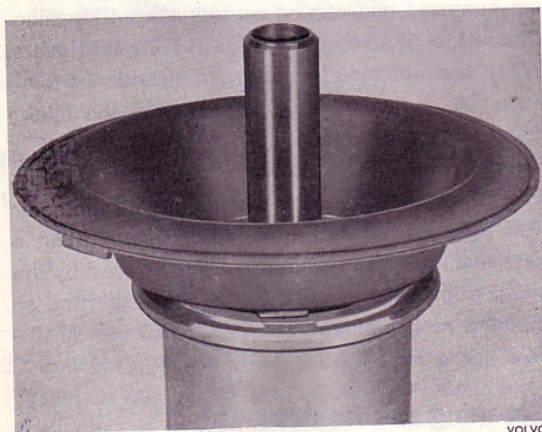

Fig. 103 Diaphragm in air valve
3. Fit the new diaphragm, see Fig. 103. The rubber register should fit into the valve groove.